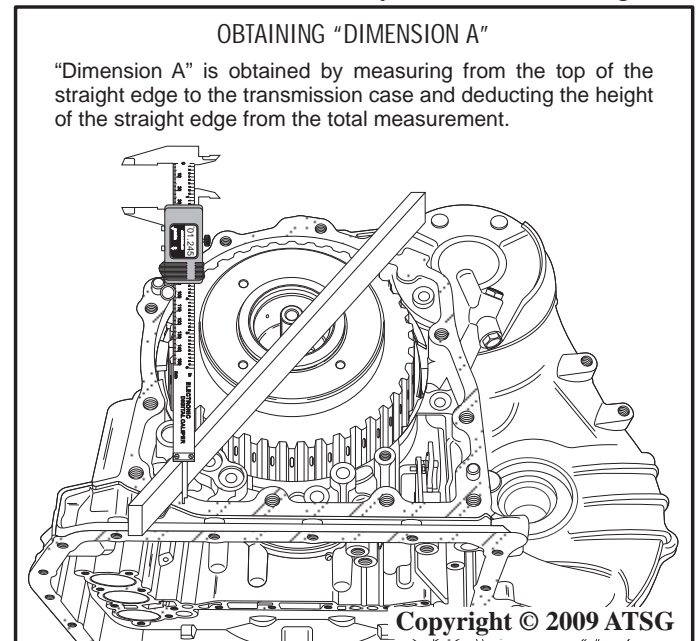

Figure 170
49. Lay a straight edge across the direct (C2) clutch drum on top of the bearing and measure the distance from the case to the top of the straight edge. Deduct the height of the straight edge from the overall height to obtain "Dimension A" as shown in Figure 170.